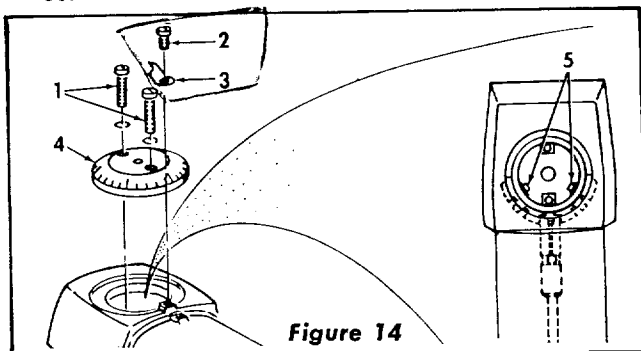

Figure 14
- Remove three screws (Item 1 and 2, figure 14), indicator (Item 3) and radial arm cap (Item 4).
- Retighten hex head screws (Item 5, figure 14) and arm latch handle.
- After blade is square to fence reassemble radial arm cap and indicator using screws (Item 1 and 2, figure 14). Set indicator at 0°.